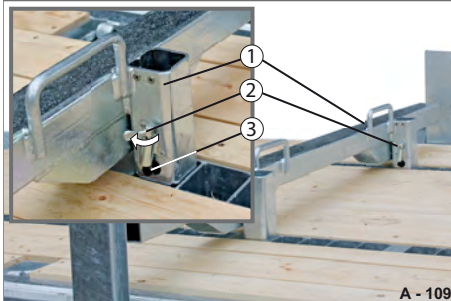

Fig. 164 Unlocking securing rails
- ▶ Turn the pin (Fig. 164/2).
The bolt (Fig. 164/3) moves out.
The securing rail (Fig. 164/1) is released.